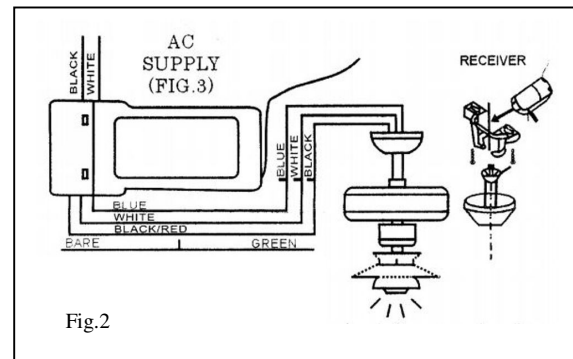

Fig. 2
**Step 2.** Motor to Receiver Electrical Connections: Connect the WHITE wire from the fan to the WHITE wire marked "TO MOTOR N" from the Receiver. Connect the BLACK wire from the fan to the BLACK wire marked "TO MOTOR L" from the Receiver. Connect the BLUE wire from the fan to the BLUE wire marked "For Light" from the Receiver. (Fig. 2)
**Step 3.** Receiver to House Supply Wires Electrical Connections: Connect the WHITE wire (Neutral) from the outlet box to the WHITE wire marked "AC in N" from the receiver. Connect the BLACK wire (Hot) from the outlet box to the BLACK wire marked "AC in L" from the receiver. Secure all wire connections with the plastic wire nuts provided. (Fig. 2)
**Step 2.** Make the electrical connections as shown in Fig. 2. If your outlet box has a ground wire (Green or Bare Copper) connect the Wall Transmitter's ground wire to it. Otherwise connect the Wall Transmitter's wire directly to one of the screws from the outlet box. Secure all wire connections with the plastic wire nuts provided.